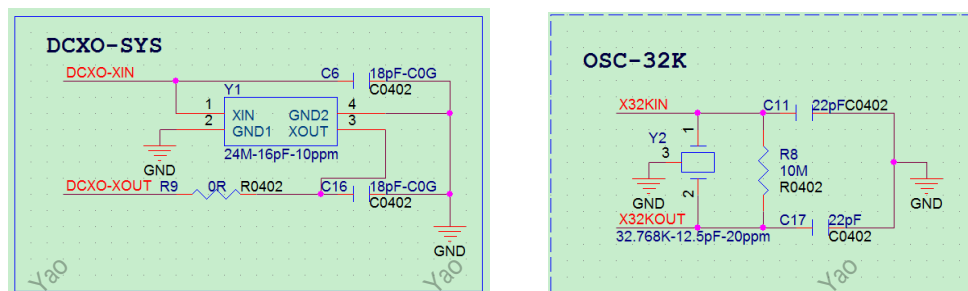

Figure 2-13 External Crystal
- The series resistors on the high-frequency crystal oscillator network X24MO must be retained to facilitate the debugging of the oscillation amplitude. The matching capacitance needs to be matched according to the load capacitance of the crystal. As shown in Figure 2-13.
X32KI and X32KO to fine-tune the frequency; the matching capacitance needs to be matched according to the load capacitance of the crystal. As shown in Figure 2-13.